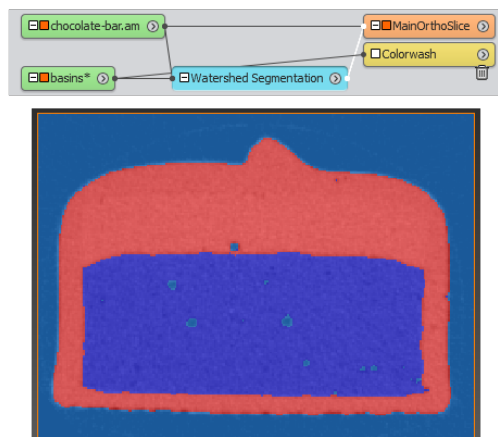

Figure 6.80: The *Watershed Segmentation* wizard completed.
- Simply press *Apply* to trigger computation (see Figure 6.80).